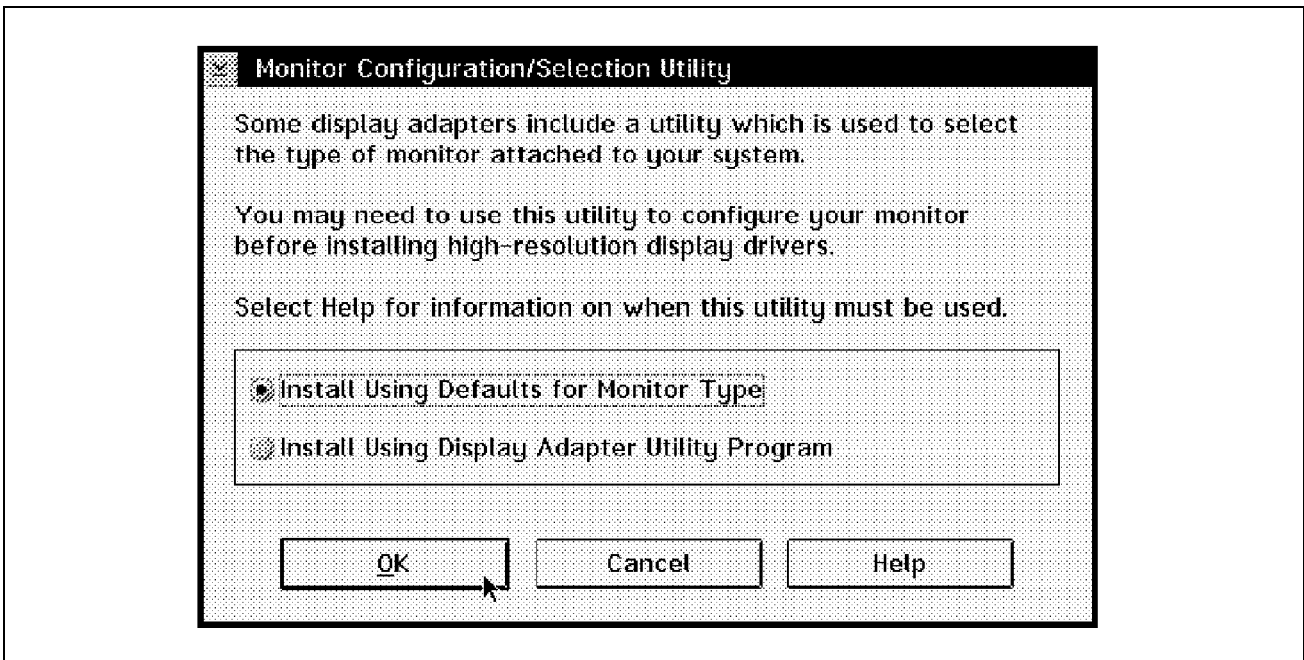

Figure 9. Display Driver Install: Monitor Configuration/Selection Utility
5. Choose whether to install using Defaults for Monitor Type or Install Using Display Adapter Utility Program as shown in Figure 9. You should know the specifications of your system before you run the monitor utility since you may be asked questions regarding your display capabilities during the install.